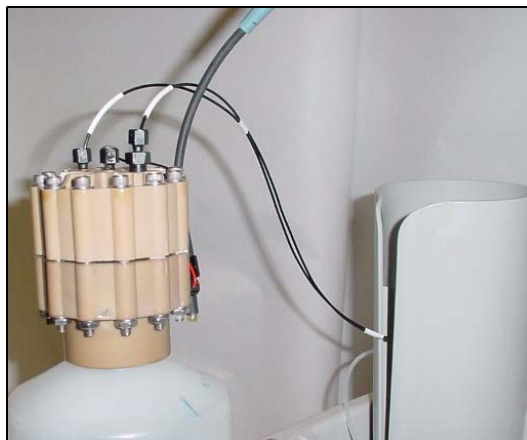

Figure 62. EluGen Cartridge Inlet and Outlet Port Connections
9. Connect the **EGC IN** line to the EluGen cartridge **INLET** port (see Figure 62).